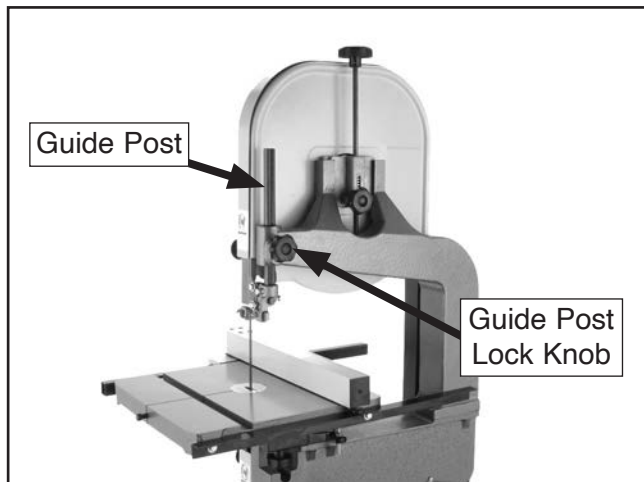

Figure 43. Guide post controls.
The guide post (shown in **Figure 43**) connects the upper blade guide assembly to the bandsaw. The function of the guidepost is to allow the blade guide assembly to move up or down depending on the height of the workpiece being cut. In order to cut accurately, the blade guide assembly must be no more than 1" from the top of the workpiece at all times—this positioning provides the greatest support to the blade.
2. Loosen the guide post lock knob shown in **Figure 43**.